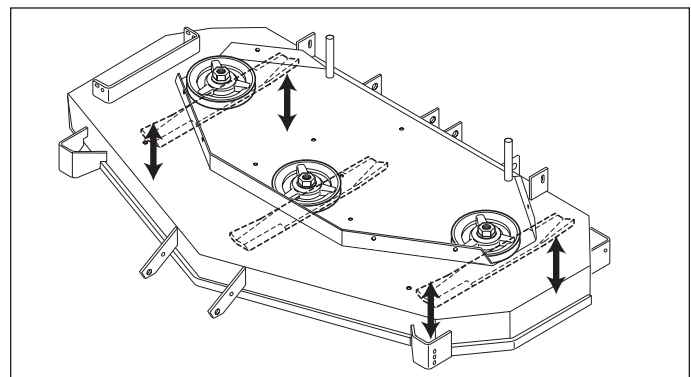

Figure 24. Checking The Blade Height Measurement
7. **For your safety, DO NOT handle mower blades with bare hands.** Position the outside mower blades so that they face front-to-back (Figure 24).